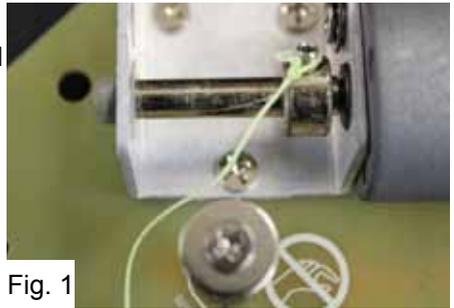

Fig. 1
1. If your old cord is still attached, begin by bridging pins 3 & 4 and pulling lightly on the cord to unwind it from the motor spindle. Once the cord has unwound enough to grant you easy access to the grub screw on the spindle (fig.1), remove a battery and untie the old cord.